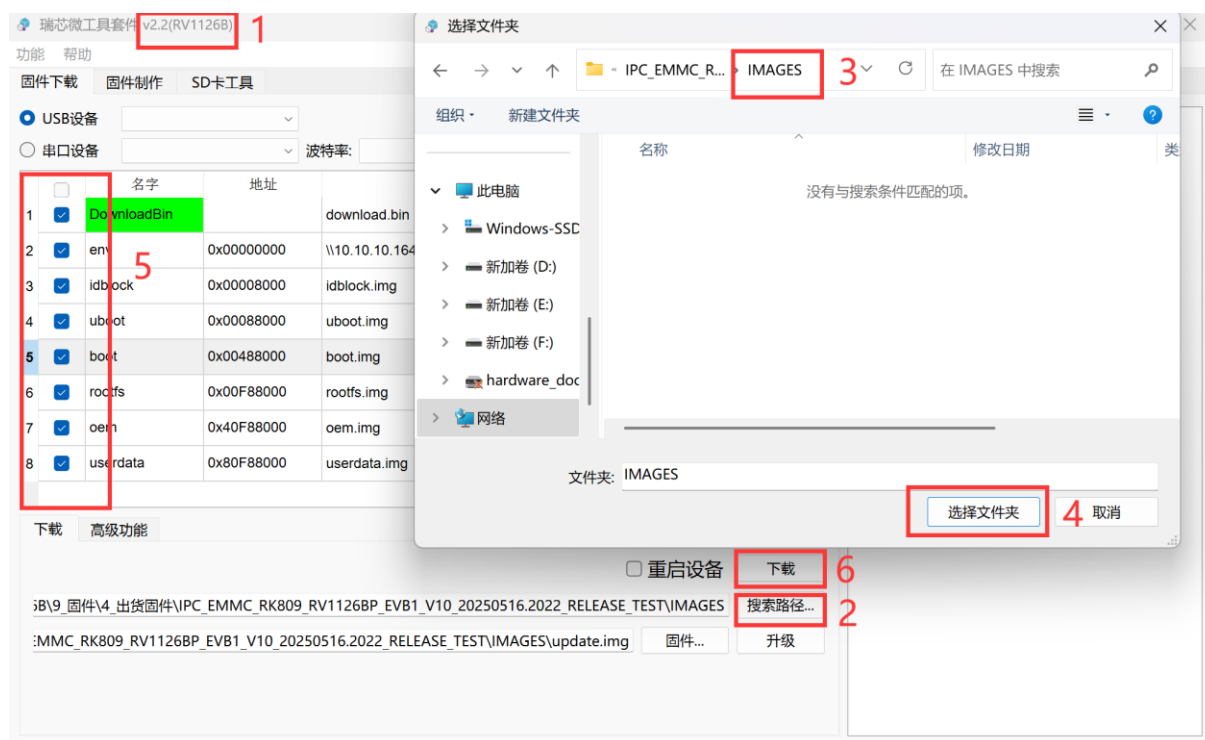

Figure 4-4 Discrete firmware
- a) Open the tool, select RV1126B, enter the interface as shown in Figure 4-4, select "Search Path..." → select the discrete firmware folder "IMAGES" → click "Select Folder" - check the discrete files to be downloaded → click the "Download" button.